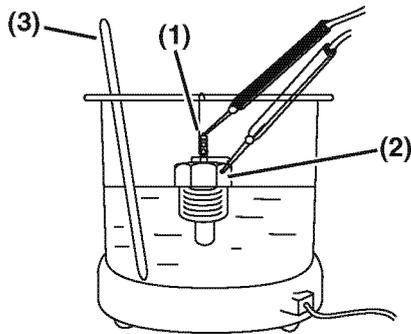

Figure 8-6
- Check for proper operation of the temperature switch. Connect a continuity light or ohmmeter to the temperature switch. Connect one lead to the terminal of the switch (Figure 8-6, (1)) and the other lead to the metal portion of the switch (Figure 8-6, (2)).
- Place the temperature switch and an accurate thermometer (Figure 8-6, (3)) in engine coolant.